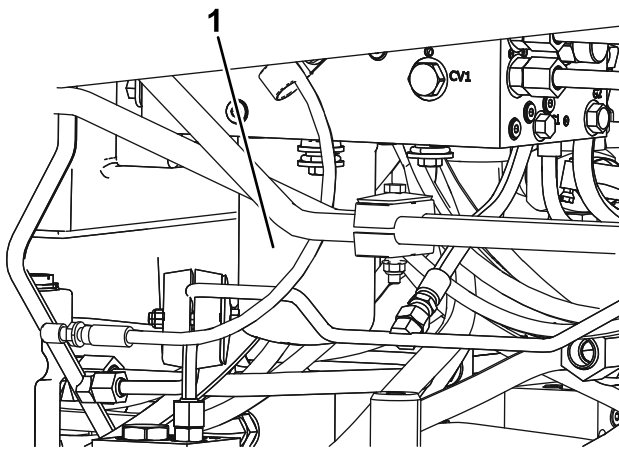

Figure 101
5. Repeat the procedure on other filter (Figure 101).